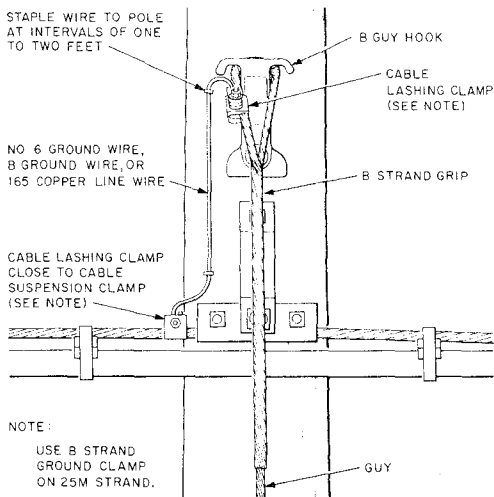

Fig. 11—Grounding Guy That Is Not Electrically Connected Through Guy Bolt
3.05 Where guys are not electrically connected through the guy bolt or cable suspension bolt, use a piece of No. 6 ground wire, B ground wire, or .165 copper line wire and two cable lashing clamps as shown in Fig. 11. With 25M strand, or with 2.2M strand not terminated with a B strand grip, use a B strand ground clamp. Double the wire back on itself for at least 1 inch when using the strand ground clamp on 2.2M strand. The connection to 2.2M strand may also be made by means of a one-bolt guy clamp with one half rotated so that the two sets of grooves are at right angles to each other. In all cases, the wire shall be stapled firmly to the pole. Staples should be 1 to 2 feet apart.